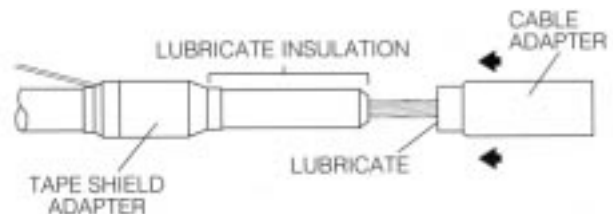
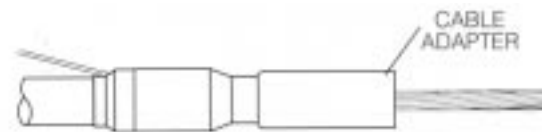

Figure 12.
Figure 13.
- Slide small end of cable adapter over cable (refer to Figure 12) using twisting motion until small end is flush with the shoulder of tape shield adapter. (Refer to Figure 13.)